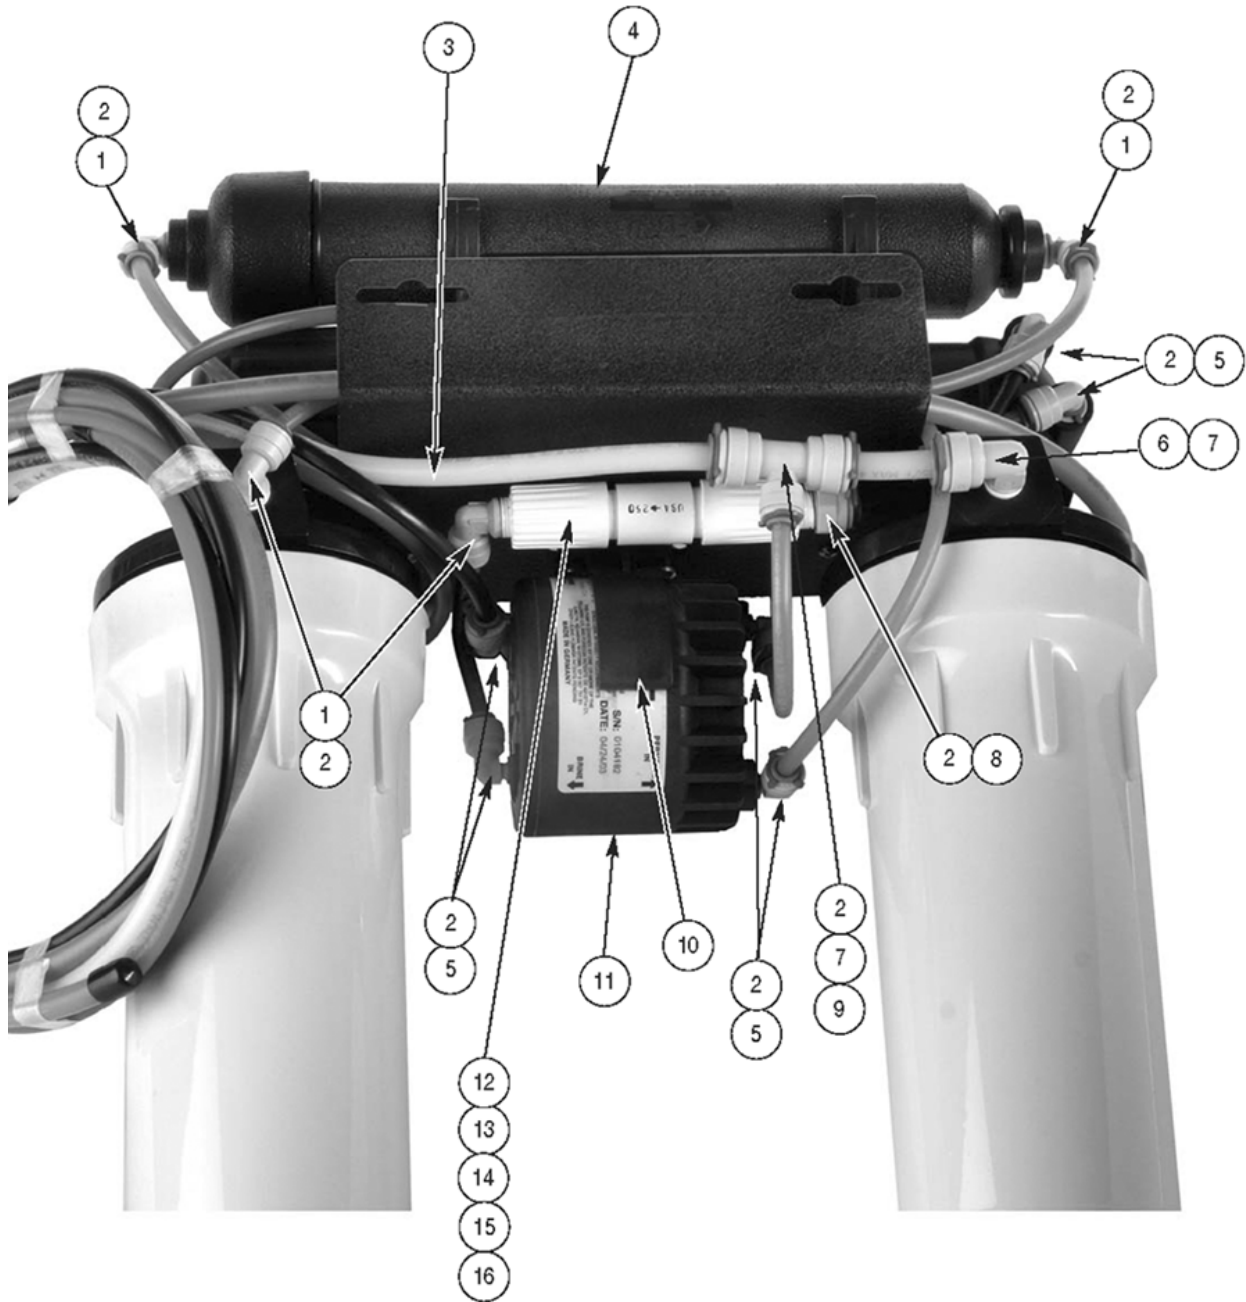

Figure 17: RO Assembly (Back View)
4. Remove the 1/4" red locking clip from the elbow on the "OUT" port of the pre-filter cap, (See Figure 17, Item 1). Disconnect the red tube.
5. Remove the 1/4" red locking clip from the 3/8" x 1/4" reducing tee, (See Figure 17, Item 9) and disconnect the 1/4" blue tube from the 1/4" branch of the reducing tee. Use a suitable length of 1/4" polyethylene tubing and connect to the elbow and tee connections.